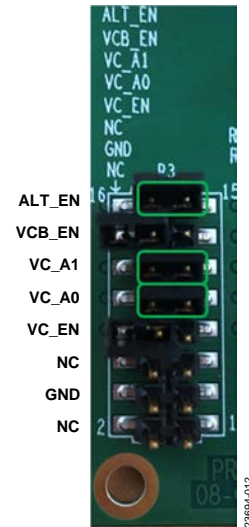

Figure 2. P3 Connector Initial Jumper Configuration with VC1 and VCB Enabled
4. Use the supplied shorting jumpers to configure the logic, as shown in Figure 2. In the configuration shown in Figure 2, the ADG1604 multiplexer, VC1 of the HMC8074, and the output buffer amplifier (VCB) are all enabled. When a jumper is disconnected, the corresponding signal is pulled up to the supply voltage (V_{CC}). To reset a pin, connect the shorting jumper from the pin to the adjacent ground (GND). Figure 2 is annotated in green to indicate where a jumper is connected and shorted to ground.